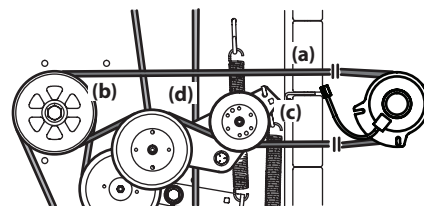

Figure 4-22
1. Remove the PTO belt (a) from the deck as instructed in the Deck Removal section then remove it from around the PTO clutch. See Figure 4-22.
2. Route the PTO belt (a) as shown in Figure 4-22. After routing the belt around the PTO pulley (b), use a 1/2" drive in the idler pulley bracket (c) and turn towards the right of the tractor to finish routing the belt around the idler pulley (d).